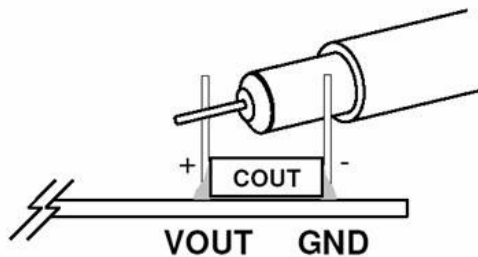

Figure 2. Measuring Input or Output Ripple Directly Across Bulk Capacitor
**NOTE:** When measuring the input or output voltage ripple, care must be taken to avoid a long ground lead on the oscilloscope probe. Measure the input or output voltage ripple by touching the probe tip directly across the  $V_{in}$  or  $V_{out}$  and GND terminals or directly across the capacitor. See Figure 2 for proper scope probe technique.